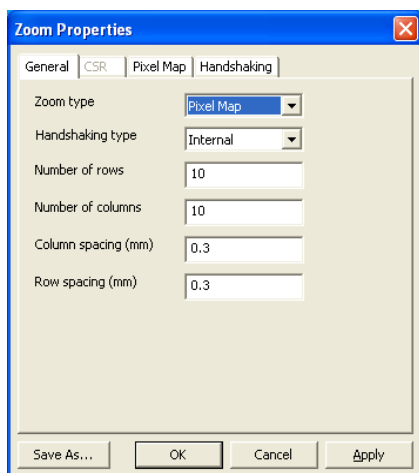

Figure 7.31. Pixel Map General Settings
- a. Choose the zoom type in the **General** tab (see Figure 7.31): **Settings>Zoom Parameters> General/ Zoom Type→Pixel Map Handshaking Type →Internal**